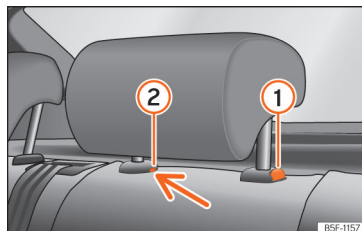

Fig. 71 Rear head restraint: removal.
- Press button >>> Fig. 71 ①, while simultaneously pressing on the safety hole ② with a flat screwdriver a maximum of 5 mm wide, and remove the headrest.